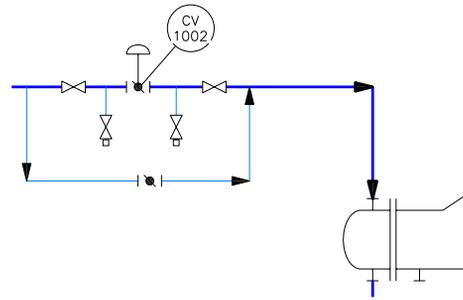

Figure 2-66 Gate valves placed on the secondary lines
- Next, delete the arrows on the secondary lines and place gate valves, as shown in Figure 2-66.